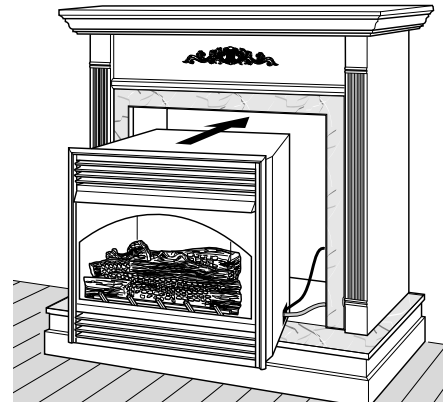

Figure 12 - Inserting Fireplace Into Cabinet Mantel
10. Carefully insert fireplace into cabinet mantel (Figure 12). Be careful not to scratch or damage hearth base, cabinet mantel, or any laminate trim on hearth base. Remove protective material from top of hearth base and from front of fireplace (if any). *Note:* You can secure fireplace to hearth or floor. Open lower louver. Locate screw holes in bottom of base. Tighten wood screws through these holes and into hearth or floor.